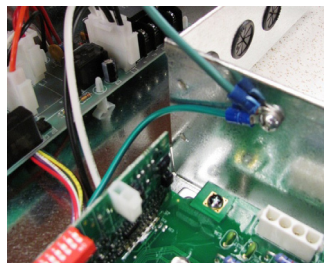

Fig. 3a
**3.** Disconnect motor ground wire from L-Shape box. Using existing machine bolt, connect motor ground wire to provided ground wire extension. (Figs. 3a-3c)